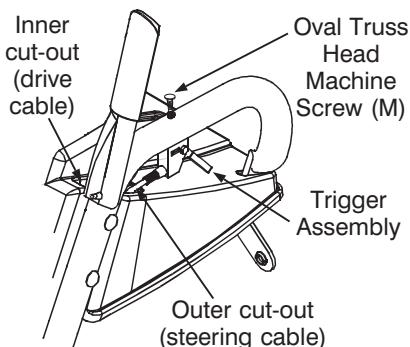

FIGURE 16
- Feed the trigger cable up through outer cut-out in the handle panel as shown in Figure 16.
- Position trigger assemblies on the underside of the handles and secure with oval truss head machine screws (M). See Figure 16.